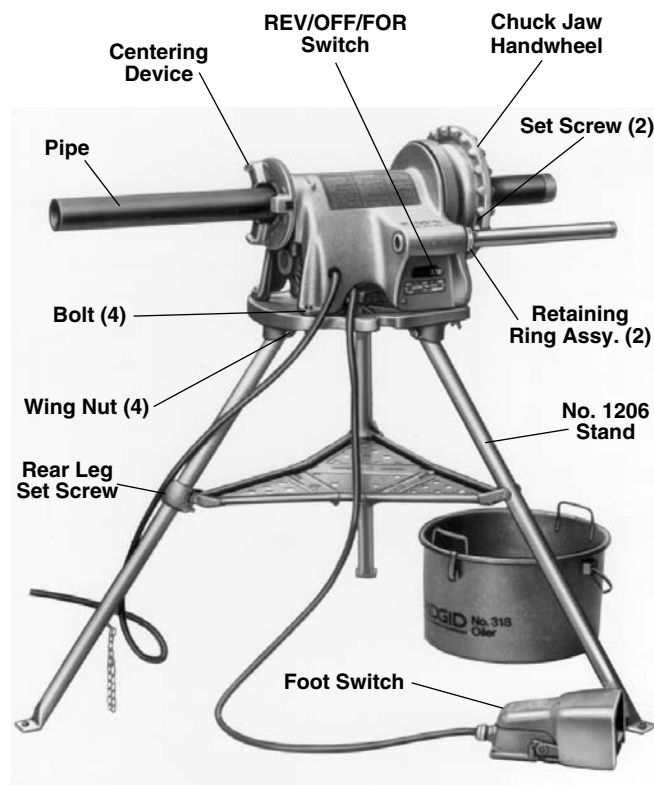

Figure 3 – 300 Power Drive Mounted on No. 1206 Stand with 418 Oiler
- Locate the set screw on the tray leg support on the rear leg (Figure 3).
2. Mount power drive on the stand using bolts and wing nuts (Figure 3).
1. Make sure Power Drive is unplugged and the directional switch is set to the OFF position (Figure 3).
4. Make sure the foot switch is present and attached to the Power Drive (Figure 3).
4. If the workpiece extends more than four (4) feet beyond the Power Drive, use one or more pipe stands to prevent tipping and the oscillation of the pipe.
5. If the workpiece extends beyond the Power Drive, set-up guards or barricades to create a minimum of three (3) feet of clearance around the Power Drive and workpiece. This “safety zone” prevents others from accidentally contacting the machine or workpiece and either causing the equipment to tip or becoming entangled in the rotating parts.
6. If necessary, fill the 418 Oiler with RIDGID Thread Cutting Oil. Position the oiler under the front of the Power Drive (*Figure 3*).